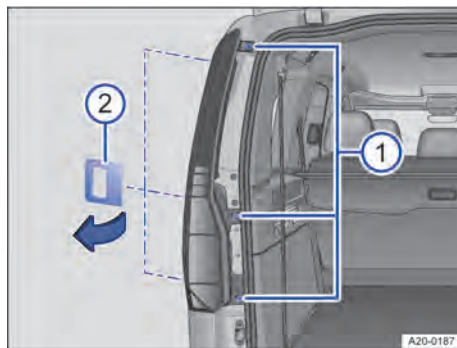

Fig. 174 At the rear left side of the vehicle: removing the tail light cluster.
- ① Securing bolt.
- ② Auxiliary tool.
1. Undo three securing screws with a screwdriver → Fig. 174 ①. Insert a suit-
2. Pry the tail light cluster out of the holder from top to bottom using the auxiliary tool → Fig. 174 ②.
5. Insert the tail light cluster into the opening in the body and carefully press into the holder → Fig. 174.
6. Tighten the securing screws → Fig. 174 ①.